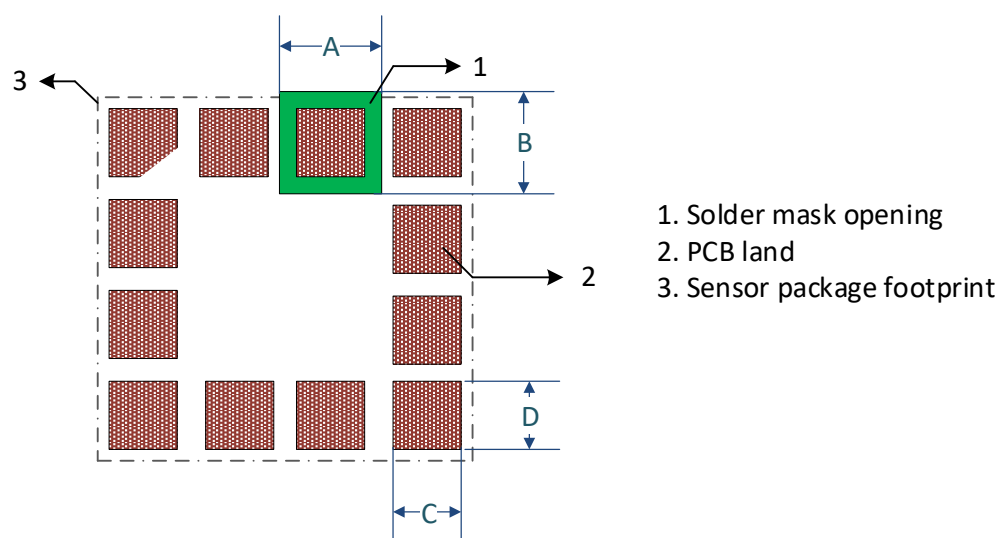

Figure 10: PCB land and solder mask recommendations for sensors with LGA package
- The solder mask opening external to the PCB land is highly recommended. Please refer to figure 10.